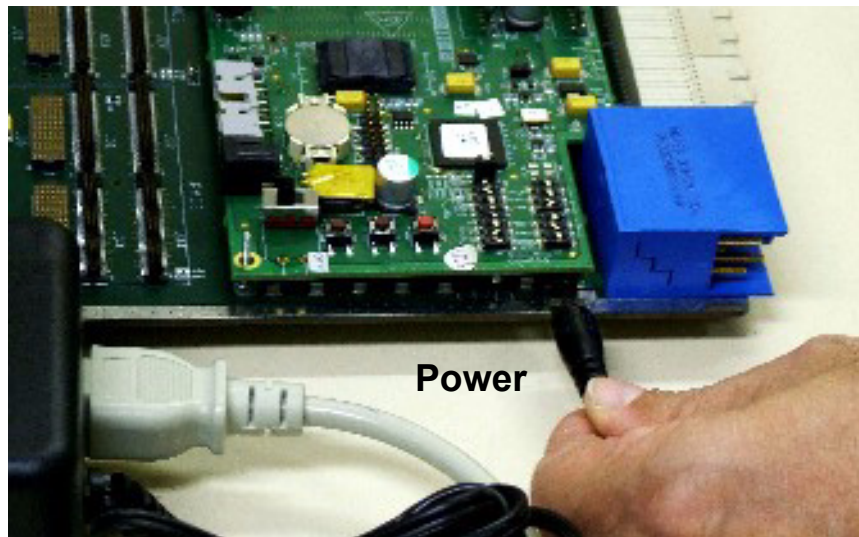

Figure 2-10 Connecting Power input to the PIB
7. If you are not working with either the USB or the PCI cards, and you will be working with the PIB in a “table-top” configuration (as opposed to inserting it in a rack to use its back plane connections), you can at this point connect the power supply to the voltage input as shown in Figure 2-10.